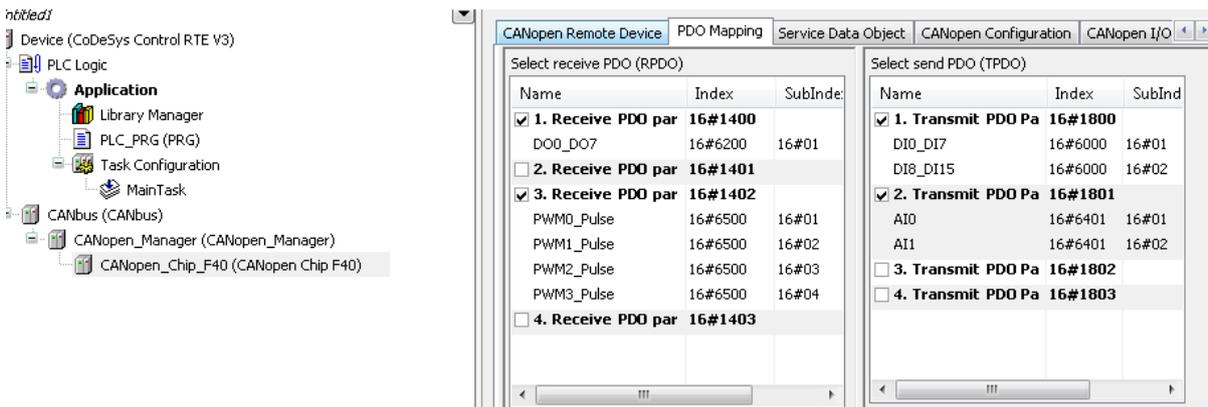

Figure 3: Default configuration of the SYSTEC F40 module
3. The default configuration of the SYSTEC-F40 module is shown in Figure 3: